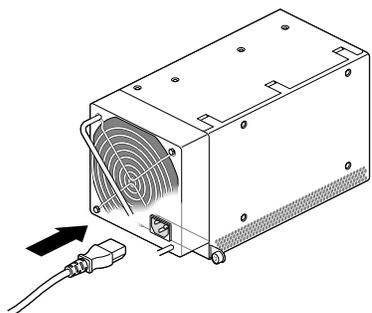

Figure 3-5 Plugging In the Power Cable
1. Tilt the new power supply upward and plug the power cable into the power supply, as shown in Figure 3-5.